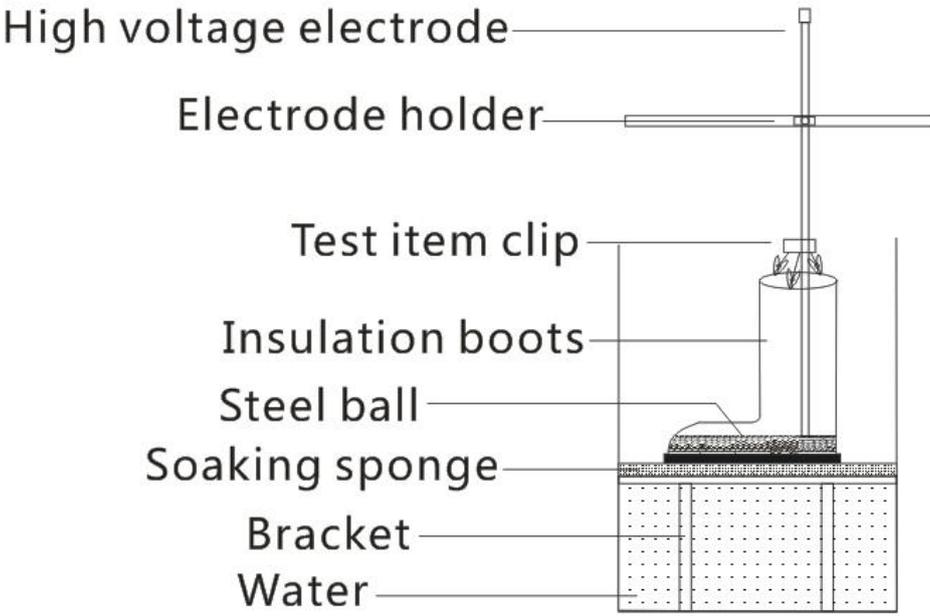

Figure 4.2 Sleeve Test
**Step 2:** Insulation boots test reference method: Put the test stand in the test barrel container, put a layer of sponge on the test stand, and then fill the test barrel container with water as long as the sponge on the test stand is completely filled with water. Yes; then put the inside of the insulating shoe into a small steel ball so that it evenly covers the bottom of the insulating shoe. Place the insulating shoe on the water-absorbing sponge. Insert the high voltage electrode into the small steel ball in the insulating shoe and fix the other end of the high voltage electrode. Above the test stand at the high pressure end, clamp the clips on the insulated boots. As shown in Figure 4.2: